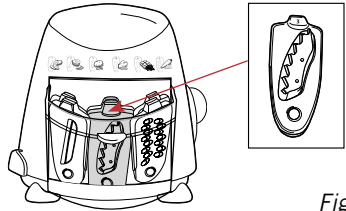

Fig 27
5. Blade 3 is the 'Chipping' blade and its position in the blade storage compartment is the middle front position, see Figure 27.